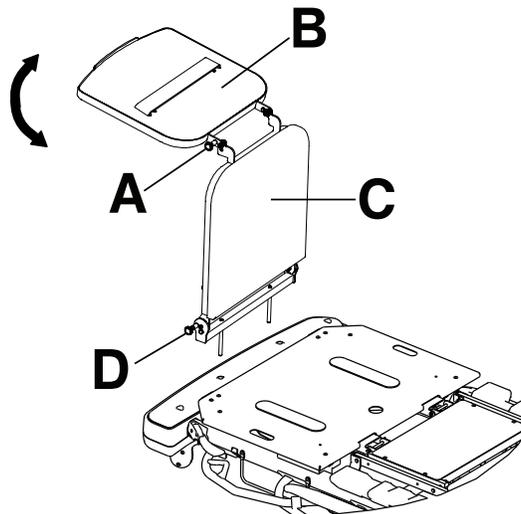

Figure 24 – Defibrillator tray/foot extender
1. Pull out the top knob (A) (Figure 24).
2. Pivot the defibrillator tray (B) until the tray is flat over the foot end of the product. Release the top knob (A). Make sure that the defibrillator tray is locked in place.
To convert the defibrillator tray/foot extender to a foot extender (Figure 24):